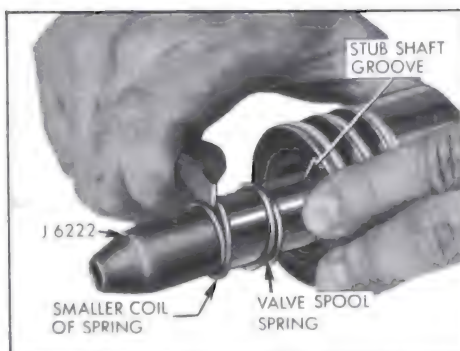

Figure 8-45—Installing Valve Spool Ring
5. Place Seal Protector J-6222 over stub shaft and slide valve spool spring over stub shaft with smaller diameter coil going over end of shaft last. See Figure 8-45. Work spring on shaft with a small screwdriver until small coil of spring is seated in the stub shaft groove. Be careful not to damage surface of shaft.